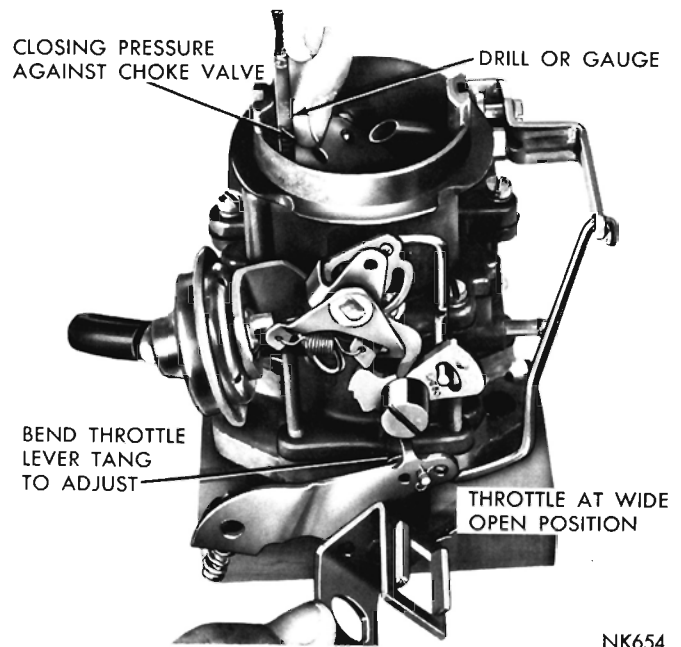

Fig 18—Measuring the Choke Unloader Setting (wide open kick)
(1) Hold the throttle valve in the wide open position, insert Tool T109-28 or $\frac{3}{16}$ drill between the upper edge of the choke valve and the inner wall of the air horn, as shown in (Fig. 18).
(2) If no drag is felt, or if too much drag is apparent, bend the unloader tang on the throttle lever, until correct clearance has been obtained.